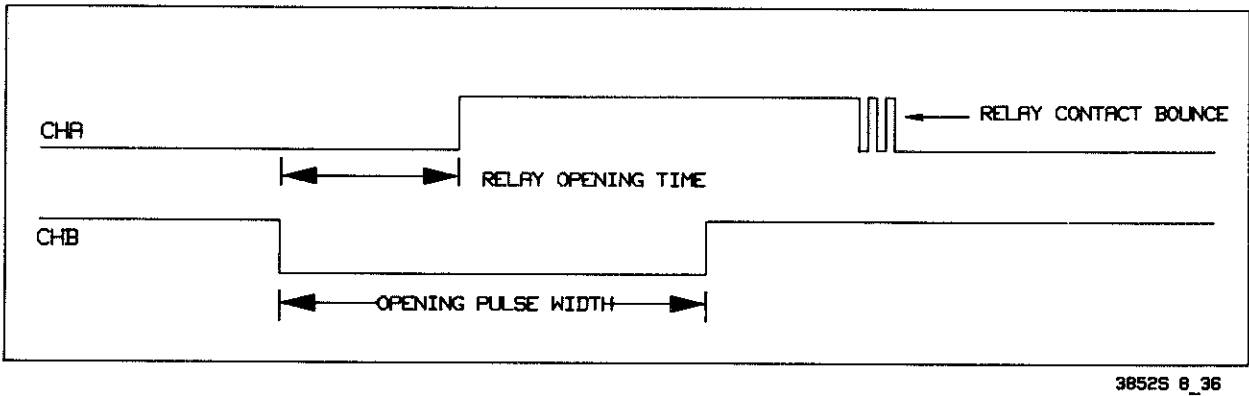

Figure 8-38 HP 44706A Opening Time
4. The OPENING pulse is a negative pulse. The width of the negative portion of the pulse must be between 0.77 and 0.94 milliseconds. If the pulse width is not within these limits, the relay multiplexer is failing. The OPENING pulse is shown in Figure 8-38. The waveform will exhibit a small amount of jitter caused by the operating system.
7. Rotate the DELAY SWEEP dial to the minimum position. Select the DELAYED sweep mode on the scope. Slowly rotate the DELAY SWEEP dial clockwise while observing the displayed waveforms. The Channel B waveform is the OPENING pulse. The Channel A waveform is the +5V supply as switched by the relays. As the DELAY SWEEP dial is rotated, one relay closure and the associated OPENING pulse will come in to view at a time. The relay opening time is the time between the falling edge of the OPENING pulse (Channel B) and the falling edge of the Channel A waveform. This time must be less than 0.94 milliseconds. This time is illustrated in Figure 8-38.